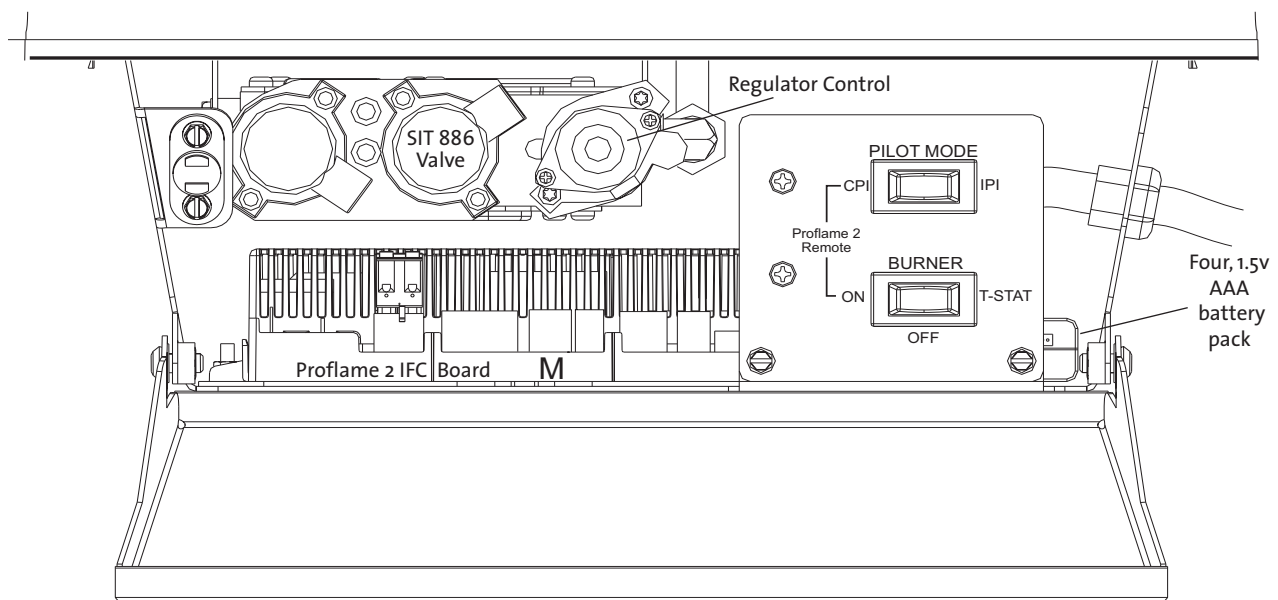

Figure 40. Control Compartment.
5. Once the pilot is lit, burner operation is controlled by the rocker switch located on the front panel. See fig. 40.